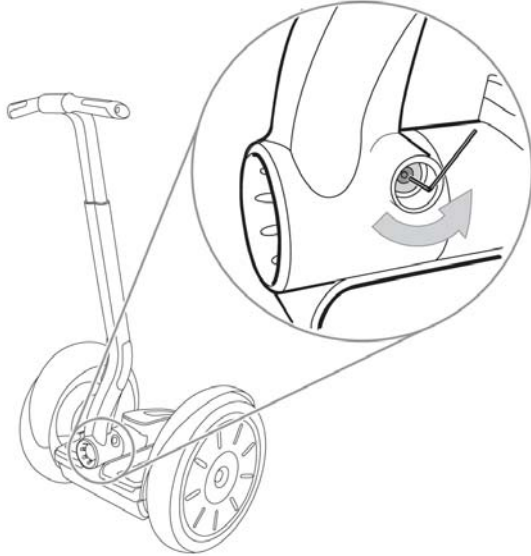

Figure 1-3: Loosen Fastener Holding LeanSteer Frame
2. Using 5mm hex wrench, remove fastener holding LeanSteer frame in place. See Figure 1-3.